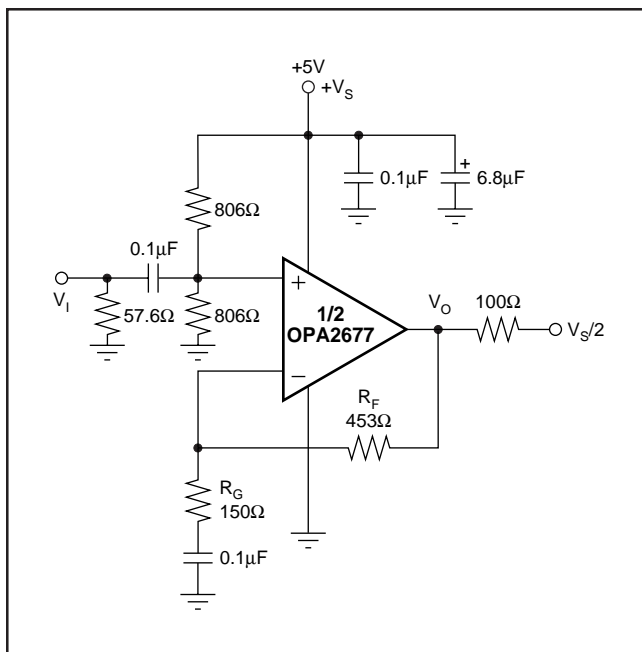
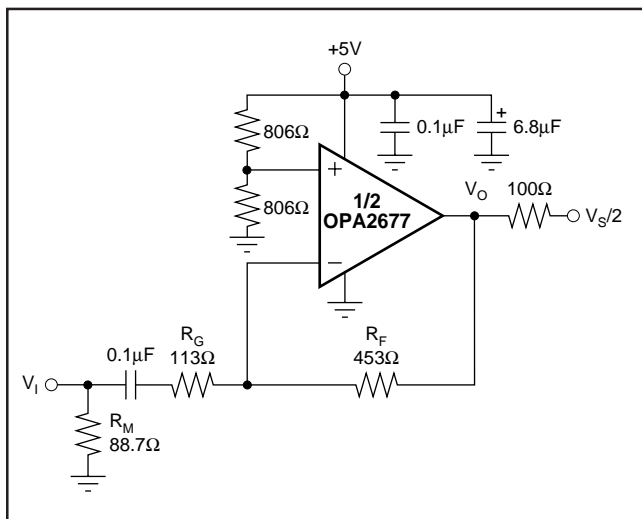

FIGURE 3. AC-Coupled,  $G = +4$ , Single-Supply, Specification and Test Circuit.
FIGURE 4. AC-Coupled,  $G = -4$ , Single-Supply, Specification and Test Circuit.
Figure 3 shows the AC-coupled, gain of +4, single-supply circuit configuration used as the basis of the +5V Electrical and Typical Characteristics. Though not a rail-to-rail design, the OPA2677 requires minimal input and output voltage headroom compared to other very wideband current-feedback op amps. It will deliver a 3VPP output swing on a single +5V supply with greater than 100MHz bandwidth. The key requirement of broadband single-supply operation is to maintain input and output signal swings within the usable voltage ranges at both the input and the output. The circuit of Figure 3 establishes an input midpoint bias using a simple resistive divider from the +5V supply (two 806Ω resistors). The input signal is then AC-coupled into this midpoint voltage bias. The input voltage can swing to within 1.3V of either supply pin, giving a 2.4VPP input signal range centered between the supply pins. The input impedance matching resistor (57.6Ω) used for testing is adjusted to give a 50Ω input match when the parallel combination of the biasing divider network is included. The gain resistor (RG) is AC-coupled, giving the circuit a DC gain of +1—which puts the input DC bias voltage (2.5V) on the output as well. The feedback resistor value is adjusted from the bipolar supply condition to re-optimize for a flat frequency response in +5V, gain of +4, operation. Again, on a single +5V supply, the output voltage can swing to within 1V of either supply pin while delivering more than 200mA output current. A demanding 100Ω load to a midpoint bias is used in this characterization circuit. The new output stage used in the OPA2677 can deliver large bipolar output currents into this midpoint load with minimal crossover distortion, as shown by the +5V supply, harmonic distortion plots.
The last configuration used as the basis of the +5V Electrical and Typical Characteristics is shown in Figure 4. Design considerations for this inverting, bipolar supply configuration are covered either in single-supply configuration (as shown in Figure 3) or in the *Inverting Amplifier Operation* section.